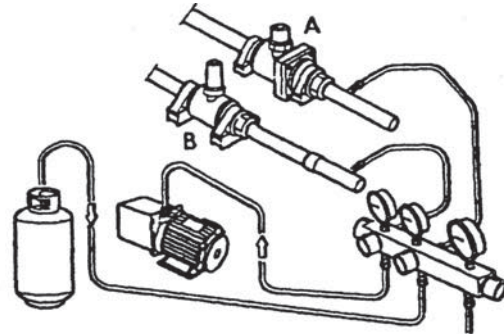

FIG. 4
6. Open the shut-off valves (A & B, FIG.4) on both sides of remote unit and of cabinet.